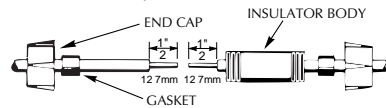

FIGURE 8
- D. Unscrew plastic caps from insulators. Place a cap and a neoprene gasket sleeve on each wire end to be spliced (see Figure 8).
- E. Slide insulator body onto one wire end (Figure 8).